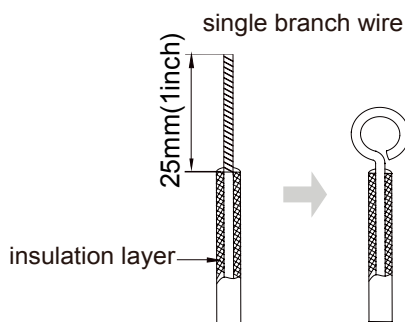

Fig. 5.1.1
(1) The connection of wire (as shown in Fig. 5.1.1)